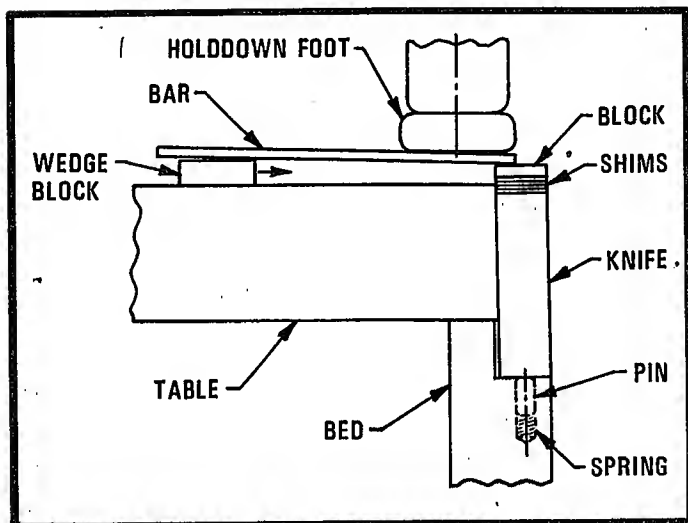
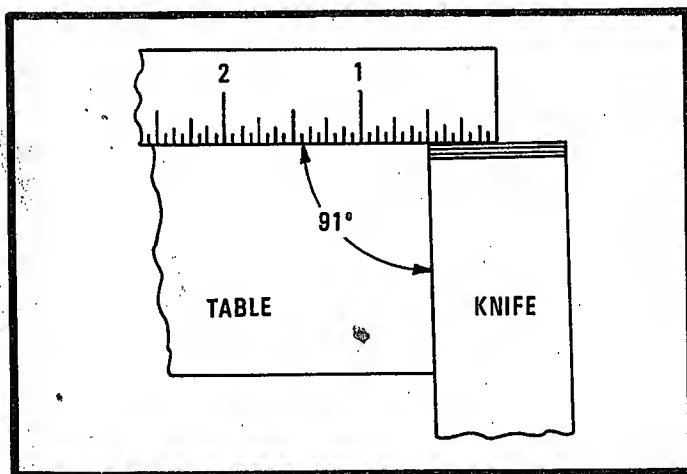
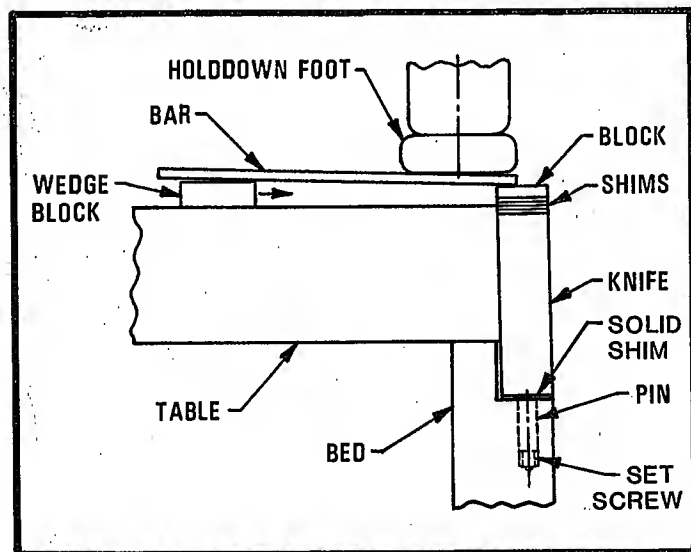

FIGURE 72
FIGURE 73
FIGURE 74
18. Compress the shims as shown in Figure 72 by moving the wedge block toward the knife. Check the thickness of the shim pack with a scale as shown in Figure 73. The scale should touch the shim pack at about the center of the knife. If necessary, add or remove shims to obtain the correct shim pack thickness.
19. Compress the shims as shown in Figure 74 by moving the wedge block toward the knife. Check the thickness of the shim pack with a scale as shown in Figure 73. The scale should touch the shim pack at about the center of the knife. If necessary, add or remove shims to obtain the correct shim pack thickness.